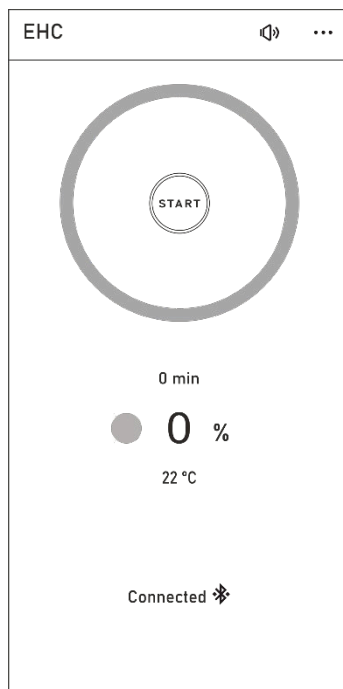

Fig. 9 – STAND BY MODE
- When the temperature drops below a safe value, the EHC closes the air control and switches to the STAND BY mode (LED goes off, in the app GREY colour) – Fig. 9.
Note: If the stove is not yet in STAND BY mode (Fig. 9) and there is sufficient glowing wood residue, you can add more wood, see **Questions, hints and tips**, page 14, no. 2. However, we recommend using small logs.